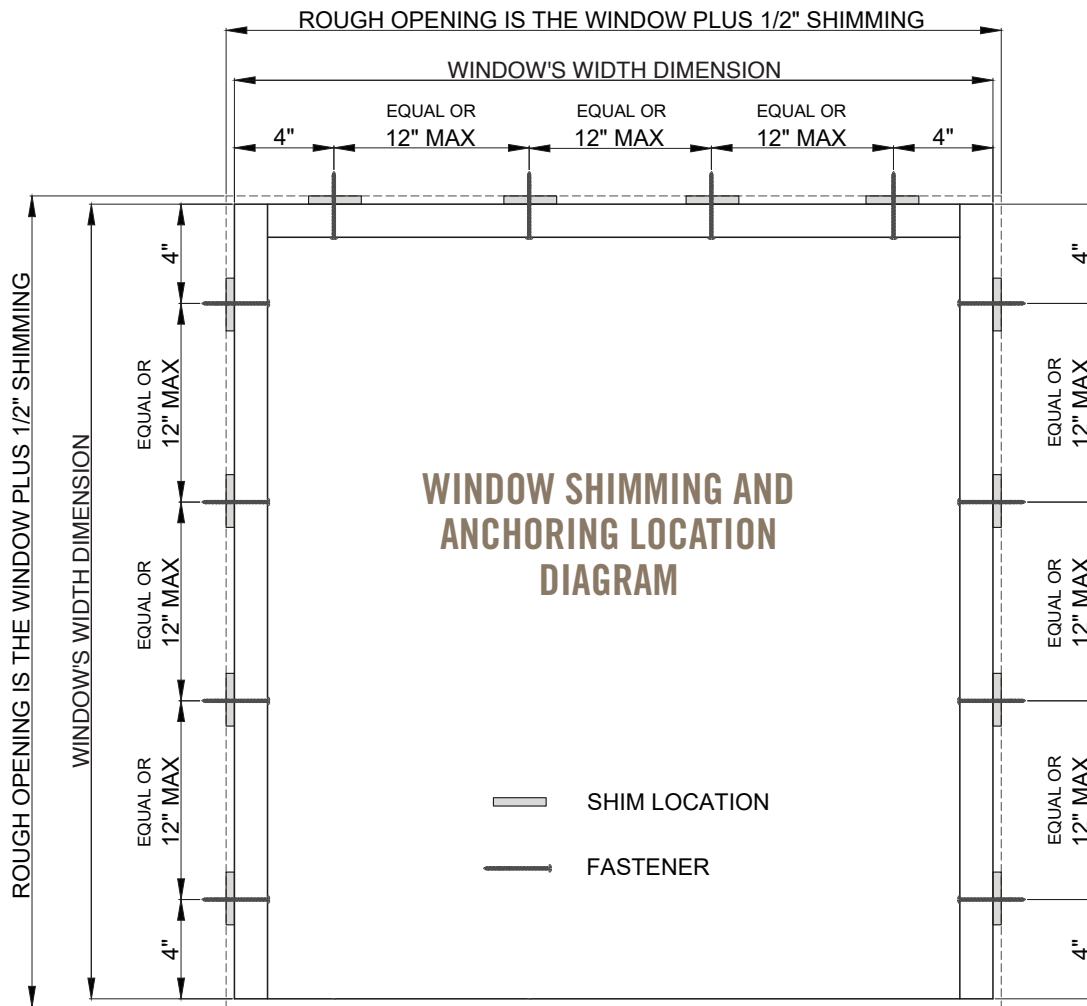

FIGURE 1.3
- There are various ways to anchor windows. Always follow local codes for anchoring windows; if not covered by local or county jurisdictions, typical anchoring for all type installations would be 4" from the top and bottom of the side's rails, 4" from the sides on the top rail, and 12" apart along the balance of the window. See *Figure 1.3*.